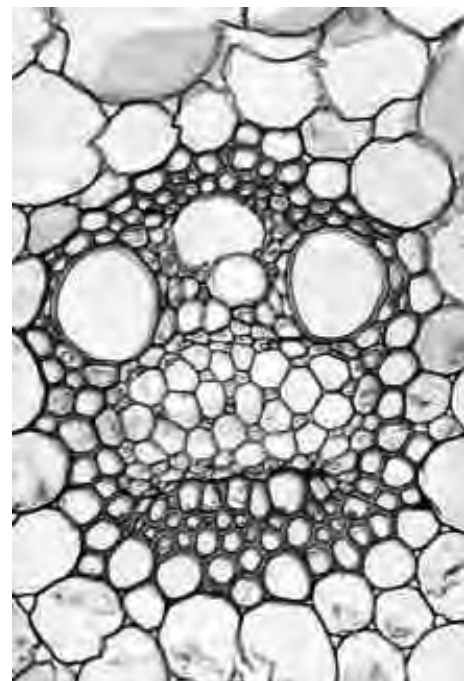
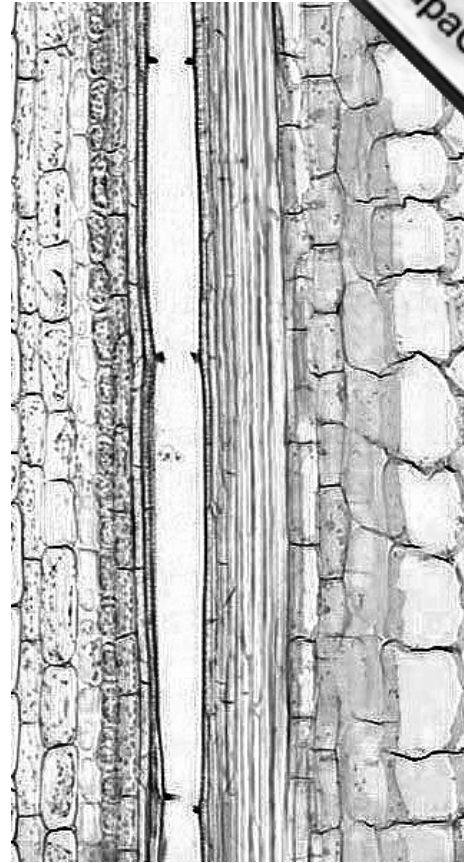

Fig. 2.1
Fig. 2.2
- (d) The photomicrographs, Fig. 2.1 and Fig. 2.2 are taken from a different part of an unfamiliar plant. Fig. 2.1 is a transverse section across the structure, and Fig. 2.2 is a longitudinal section along it.
Question 2            Fig. 2.2 © <http://www.lima.ohio-state.edu/academics/biology/images/cornstems.jpg>